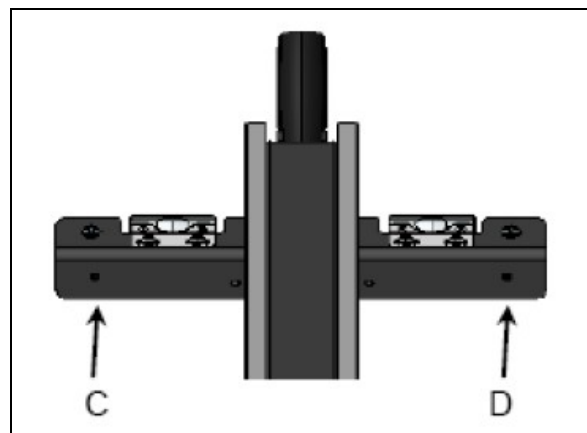

Figure 23
2.) If the fence is not parallel it may be adjusted by using an allen key to turn both of the screw C and D. Do this slowly and only a quarter turn at a time at most as you will quickly overshoot the desired adjustment. See figure 23.